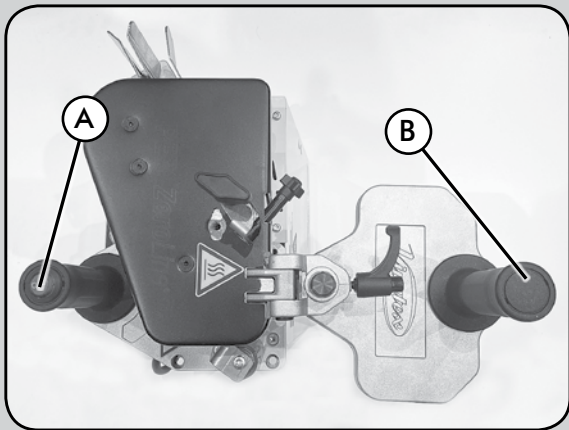

Fig. 5
- Ensure that both handles A and B (Fig. 5) are aligned as shown.